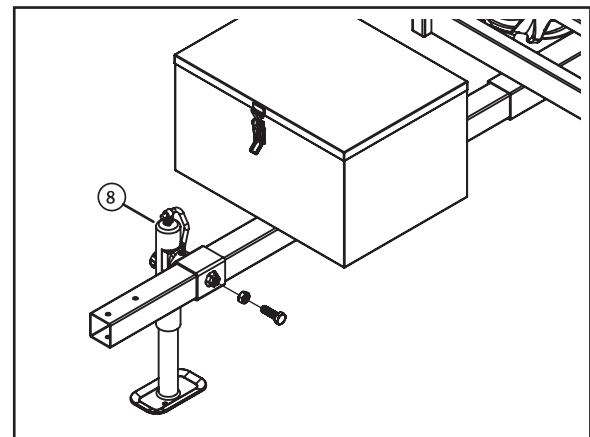

Fig. 7
Step 11: Install the Leveling Jack. Install the Leveling Jack (8) onto the Tow Bar and slide it close enough to the Hydraulic Storage Box (6) so that there is enough room to operate the crank handle on the jack. Tighten the bolt on the side (Fig. 7), then tighten the jam nut to prevent the bolt from becoming loose to secure it in place.